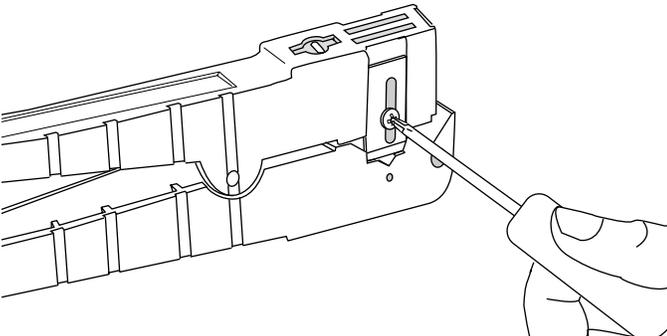

Figure 3
4.2 Before using the large Ideal stripper, make sure that it is properly adjusted. Use a screwdriver to adjust *one* of the blades on the side of the cable stripper so that it seats against the lower jaw but does not force the jaw open (Figure 3). *Leave the blades on the front and other side of the tool fully retracted so that they do not extend into the grooves of the lower jaw.*